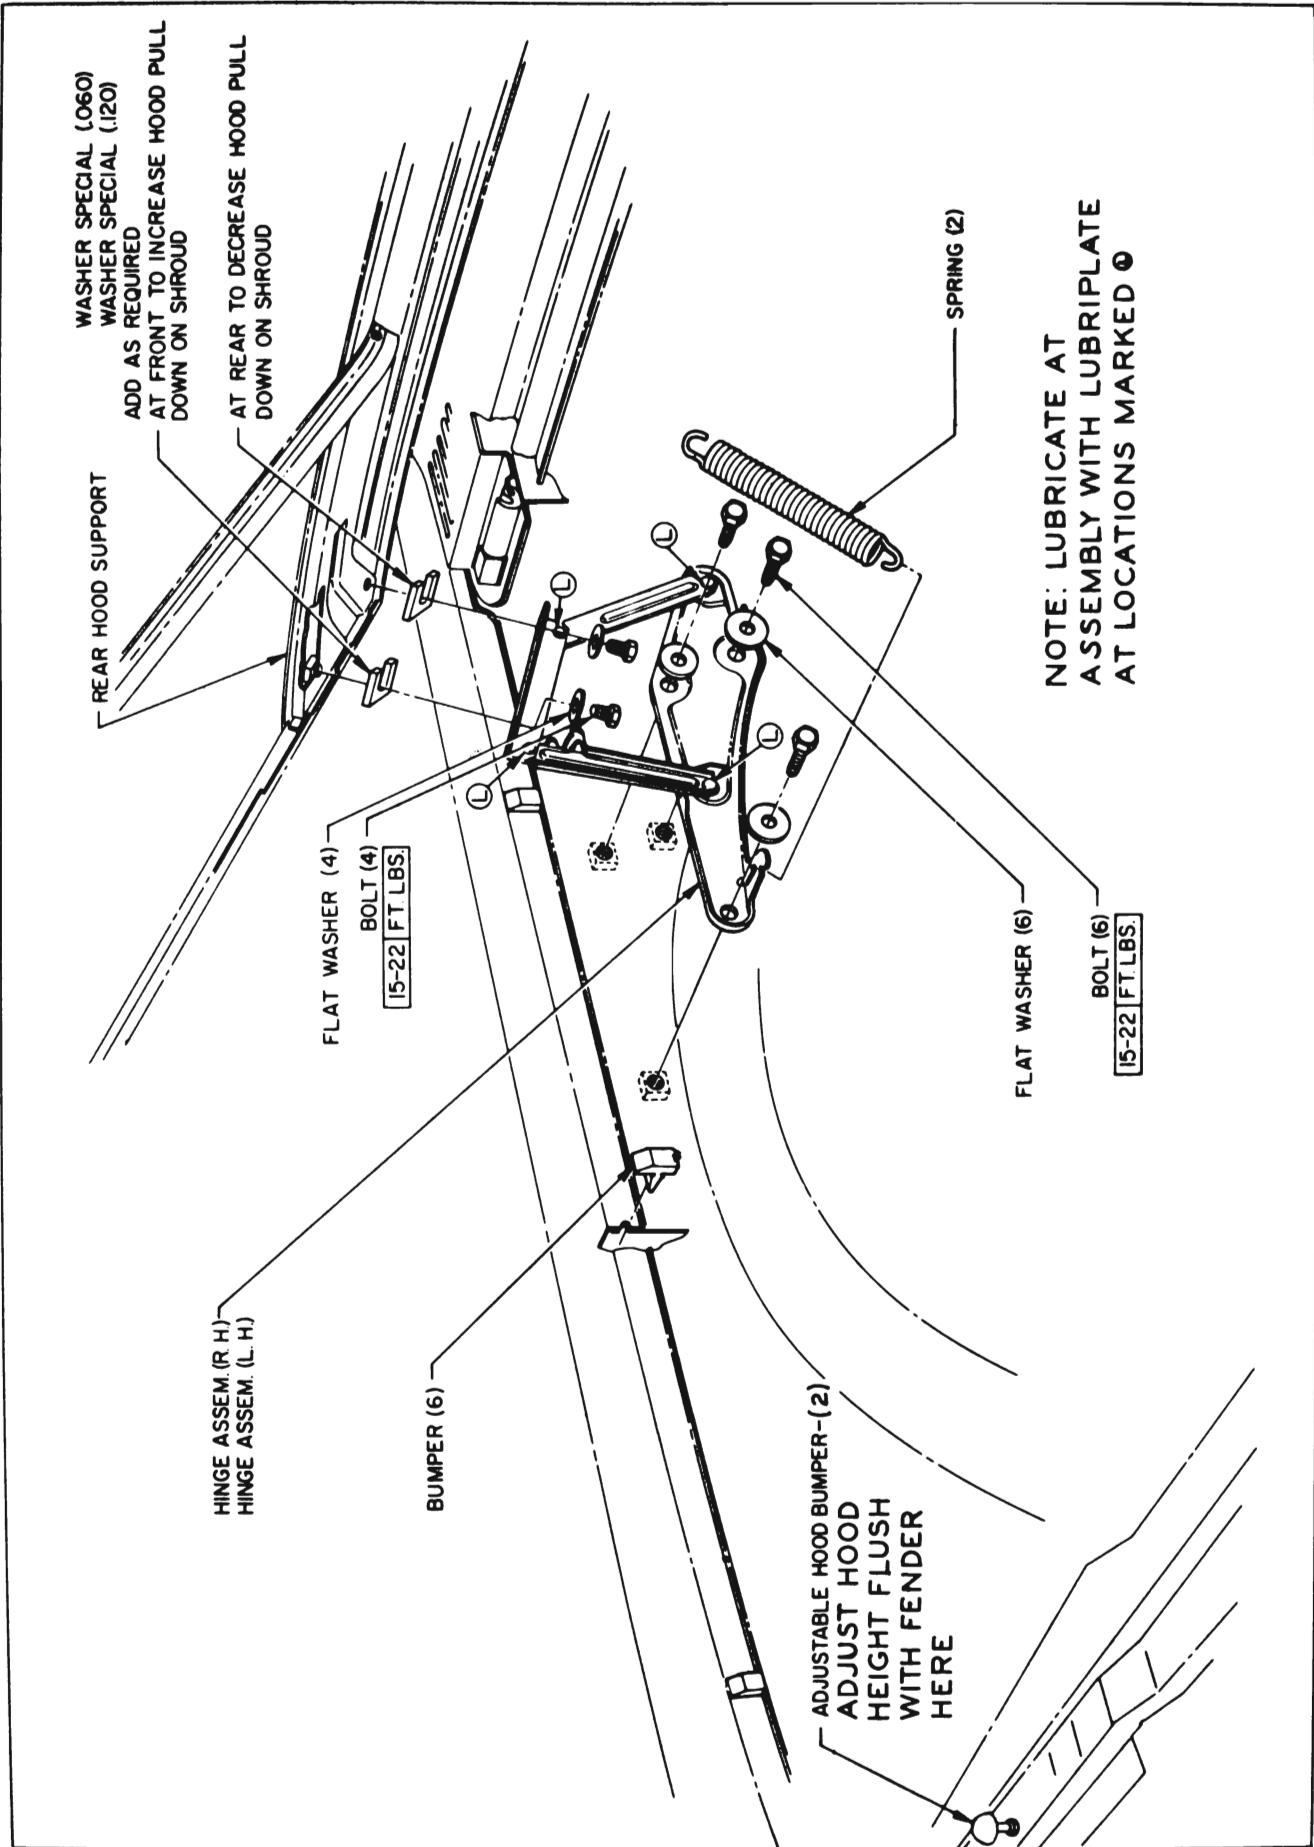

Figure 12-7—Hood Hinge Installation
The rear of the hood assembly is attached to the body cowl and wheelhouse on each side by hinge assemblies which permit the front of the hood to be raised. A heavy coil spring connected between each hinge assembly assists in raising the hood and holds it in the open position. See Figure 12-7.
To prevent hood panel flutter, the rear end of the hood panel must have firm contact with the rubber bumpers and lacing attached to cowl ledge. The hood may be raised or lowered by adjustment at hinges. See Figure 12-7.
1. Rear Height. Rear hood height is determined by special washers between hinge and hood. Removing or adding washers will shift rear of hood up or down with respect to hinge. See Figure 12-7.
2. Rear Tension. Too little tension is indicated if the rear hood area flutters. To increase tension, add special washers between the hood and the hinges at the front bolts. See Figure 12-7.
Too much tension is indicated if the rear area of the hood bends as it is closed. To decrease tension, add special washers between the hood and the hinges at the rear bolts. See Figure 12-7.
3. Front Height. This is determined by two adjustable bumpers. See Figure 12-7. However, the front of the hood may not contact these bumpers unless the hood latch is correctly adjusted as described in Step 4.